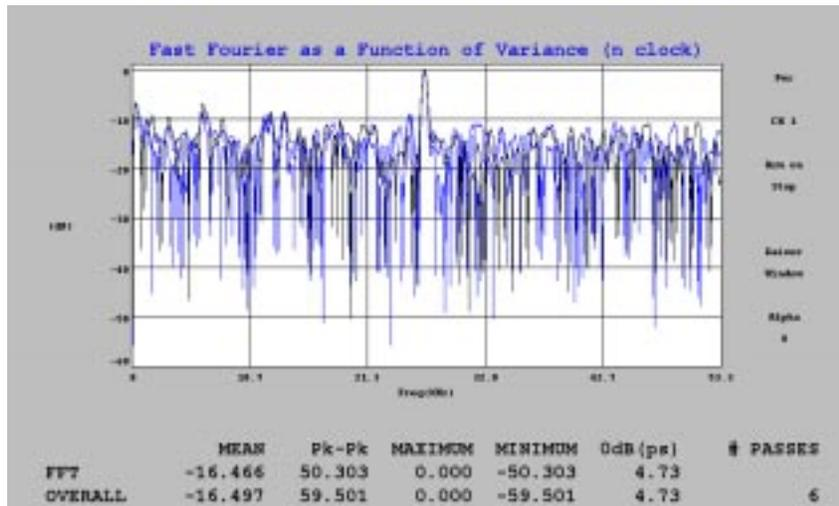

Figure 7 - FFT of 106 MHz Clock Normalized to N Clocks
fundamental (106MHz) divided by the count (202). Figure 7 shows us the FFT of this clock.